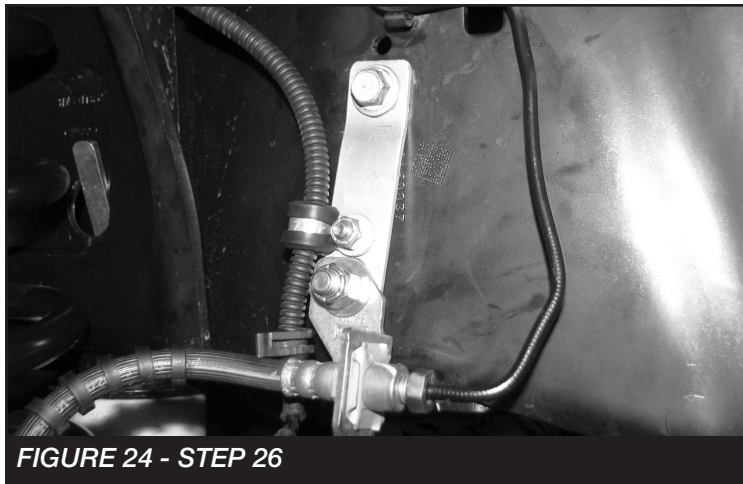

FIGURE 24 - STEP 26
26. **(PASSENGER SIDE)** Install FT30659 (Brake line bracket) to the factory brake line tab using the supplied 3/8" hardware (Use lower hole). Next, using the supplied rubber clamp and 1/4" hardware, attach the ABS line to the upper hole on the FT30659 bracket. Re attach to the frame using the factory hardware. Torque 3/8" & factory hardware to 52 ft-lbs. Torque 1/4" hardware to 14 ft-lbs. **SEE FIGURE 24**